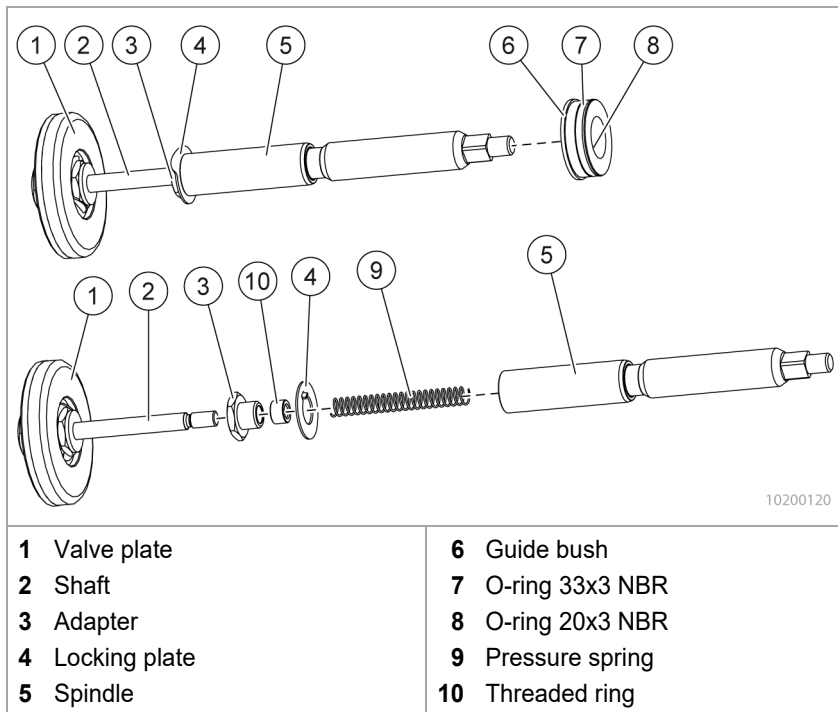

Fig. 4 Bush and valve disc / spindle
1. Straighten the lug of the locking plate (Fig. 4/4).
2. Completely unscrew the valve disc (Fig. 4/1) with the mounted axle (Fig. 4/2) from the adapter M14x1.5~00 (Fig. 4/3).
With repair set Advanced: Replace pressure spring (Fig. 4/9) and spindle (Fig. 4/5).
3. Screw the adapter in the correct position onto the axle of the new valve disc and screw on the threaded ring (Fig. 4/9).